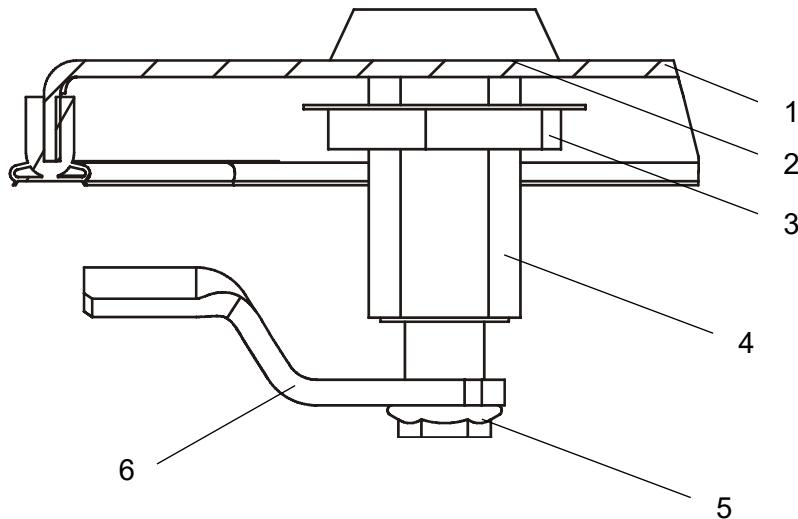

Figure 3-19: Compression Latch
1. Loosen screw M6 (5) and remove pawl (6). See Figure 3-19.
2. Loosen and remove ring nut (3).
3. Press fastener (4) out of service cover (1). If required, use rubber mallet.